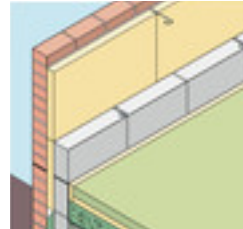

Figure 2
3. Build up a complete section of the leading leaf to one course above the next row of wall ties spaced at a maximum of 900mm horizontally (Figure 2). Ensure that all mortar joints are properly filled, particularly the perpend.